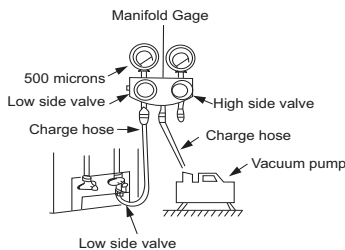

Fig. 17 – Manifold
3. Fully open the low side of manifold gage (see Fig. 17).